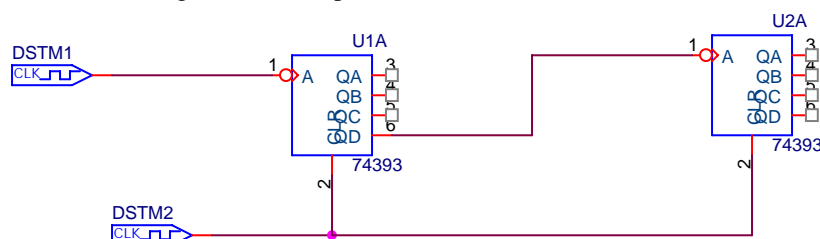

Figure C-3
- Simulate the circuit in figure C-3 in PSpice